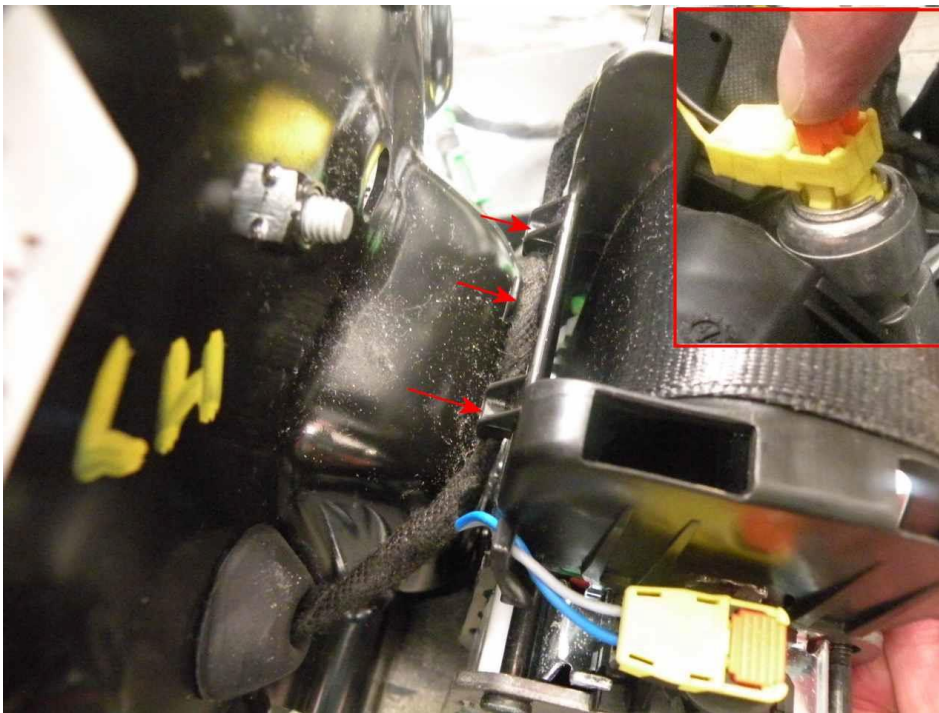

Figure 20
34. With the new harness in position and the grommet (7) engaged in the retractor plate position the harness under, over and finally under the three guides (arrows) before making the connections at each seat belt pre-tensioner and load limiter. To make each connection the respective connector should be positioned over the component before pressing down on the orange keeper this will first engage the main yellow housing into the component before the inhibit is released allowing the orange keeper to engage (see inset Figure 20). Carry out the same operation on the right hand belt assembly
- When refitting the centre console, locate the centre pin (2) first followed by the two side buttons before pushing forward into position